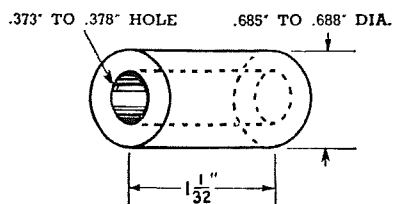

Fig. 19—Chevrolet 1939
1939-42: (1)—Disconnect piston rod yoke and valve links from reactionary levers. (2)—Push piston into the cylinder to provide clearance for making adjustments. (3)—For 1939 cars, a special bushing should be made to the dimensions as shown in Fig. 19. For 1940-42 models, a special bushing is required and